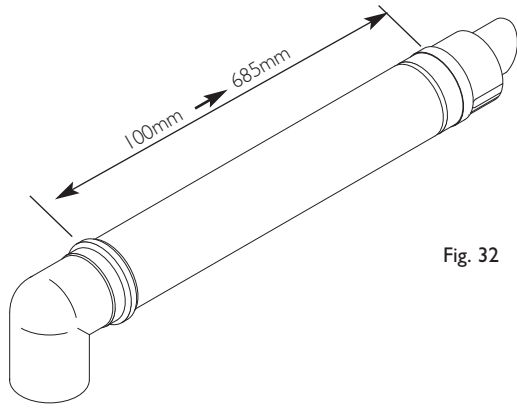

Fig. 32
1. The standard flue is suitable for lengths between 100mm minimum and 685mm maximum, as measured from the edge of the flue elbow outlet to the joint between the terminal and air duct (Fig. 32).